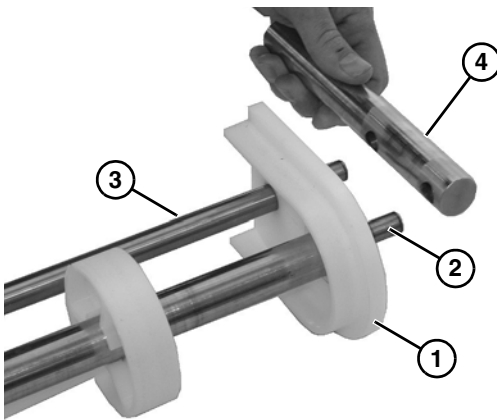

Figure 67
- Install the pinch guard (Figure 67, item 1) to each side onto idler shaft (Figure 67, item 2) and pinch guard shaft (Figure 67, item 3).
- Install the bearing end rod (Figure 67, item 4) onto idler shaft (Figure 67, item 2) and rod (Figure 67, item 3).